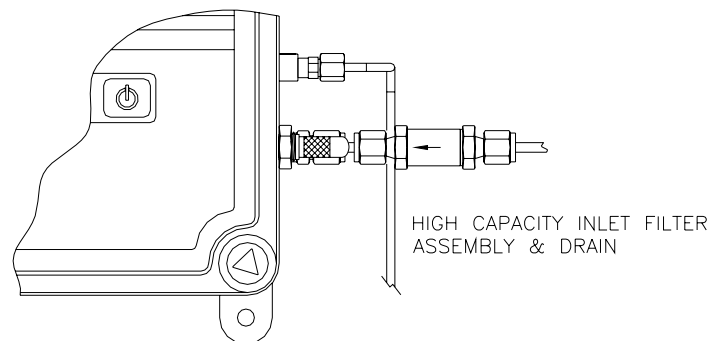

Figure 3. High Capacity Inlet Filter Assembly and Side-Mounted Needle Valve
7. In this mode, the LEDs on the front cover of the 5000TOCe Sensor act as a bar-graph indicator as described below. The flow rate is set by adjusting the inlet needle valve installed on the sample inlet connection of the 5000TOCe Sensor (see Figure 3).